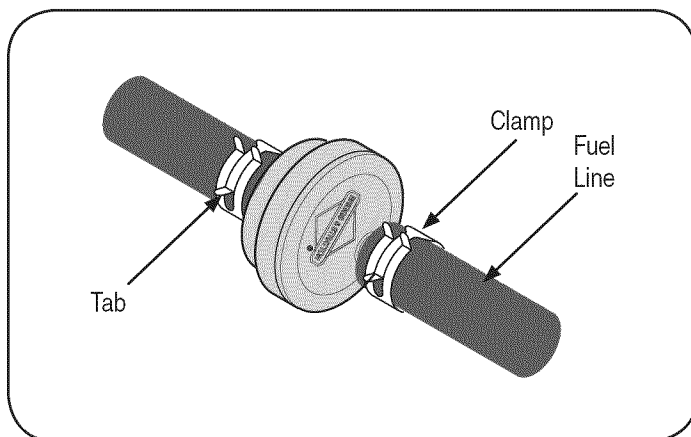

Figure 11
1. Use pliers to squeeze the tabs on the other clamp (the out-line side of the fuel filter), then slide the clamp away from the fuel filter. Twist and pull the fuel line off of the fuel filter. See Figure 11.